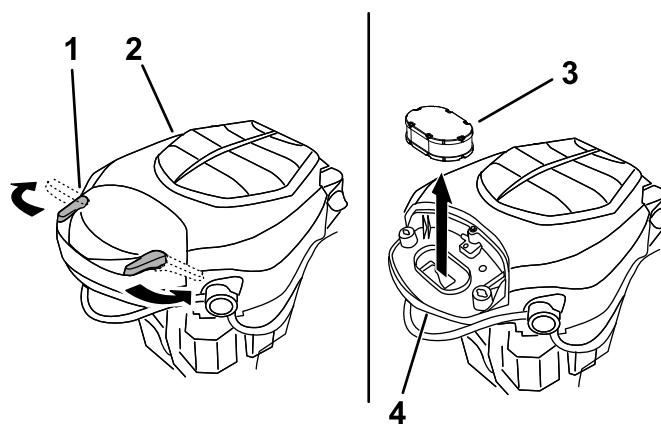

Figure 38
3. Install the cover and secure it with the latches (Figure 38).